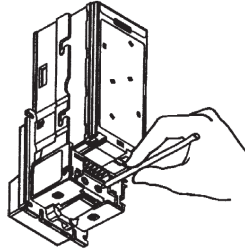

Figure 4
3. **Locate the service button** on the back of the unit (refer to Figure 4). Depress the button once to enter coupon set-up mode. Depressing again will exit the mode.